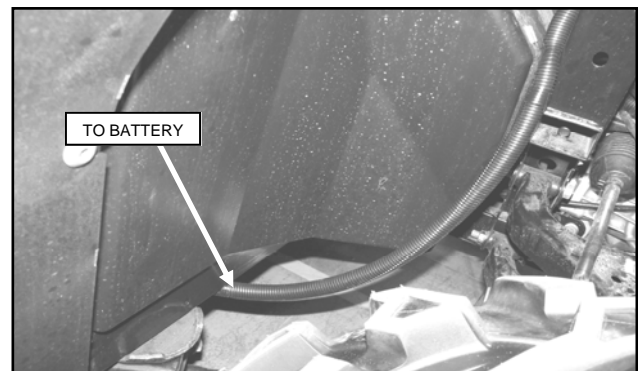

Fig. 3.5a (Wheel Well, Passenger Side)
- 3.5** Per figures 3.5a and 3.5b, continue to run the remainder of the Main Wire Harness to the back of the vehicle on the Passenger side to the vehicle's battery compartment.